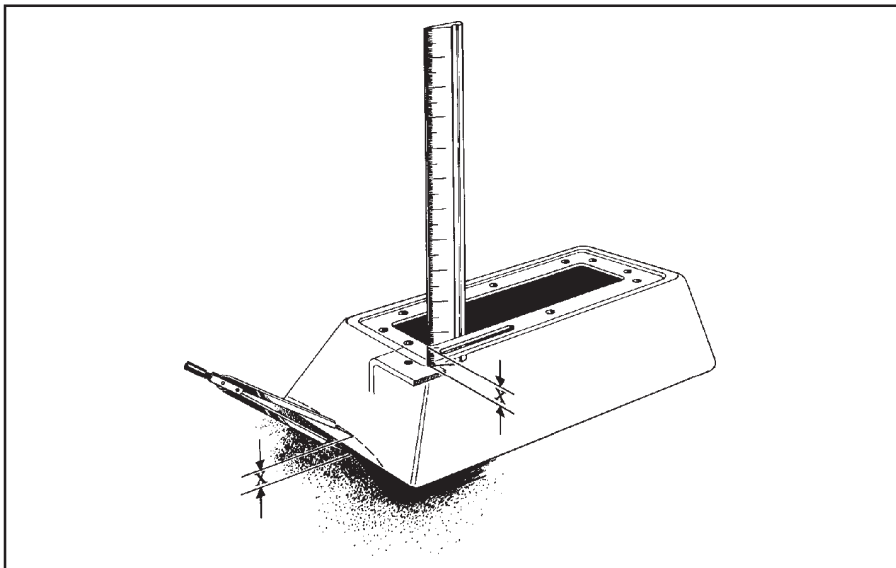

Figure 9
STEP 29. Place the tower over the shifter mechanism until the bottom edge of the tower touches the floor. Put the shifter cover and the indicator cable through the opening in the top of the tower. Hold the tower level to the shifter with the bottom of the tower touching the highest surface on the floor it will come into contact with (**See Figure 9**). Use a ruler to measure the distance X from the underside of the tower to the tower mounting brackets on the shifter mechanism.
STEP 30. Set a pair of dividers at the distance X, measured in **step 29**. Hold the tower level to the shifter mechanism with the bottom of the tower touching the highest surface on the floor it will come into contact with. Holding the tower in position, place one leg of the divider against the floor while the other touches the tower (**See Figure 9**). Using the divid-